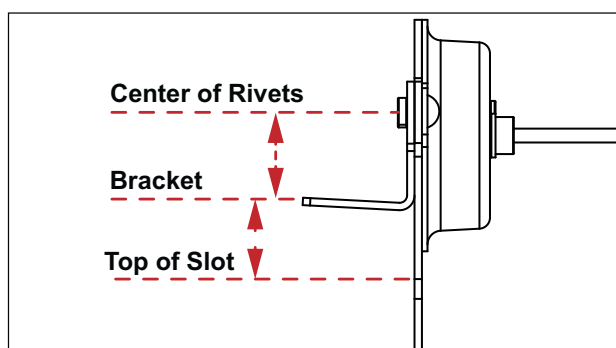

Figure 2. Bracket Position for Small Muffler.
2. Position and design of the welded bracket on the thermostat housing for attaching to the muffler. See Figures 2 and 3.
The welded bracket position on the thermostat housing, illustrated in Figures 2 and 3, is based on the muffler size.